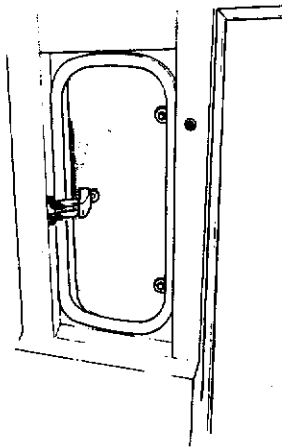

Figure 1-17 Rear side window
89. Rear side windows (Fig. 1-17)